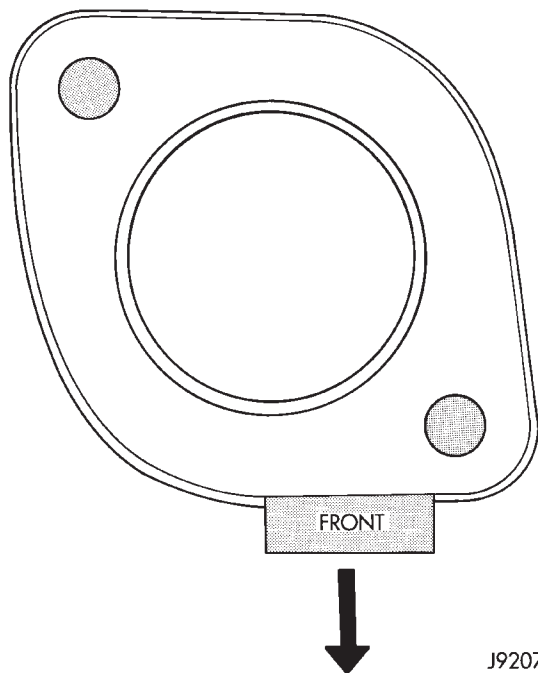

Fig. 41 Thermostat Position—5.2L/5.9L Engines
- (4) Position thermostat housing to intake manifold. Note the word FRONT stamped on housing (Fig. 41). For adequate clearance, this **must** be placed towards front of vehicle. The housing is slightly angled forward after installation to intake manifold.
- (5) Install two housing-to-intake manifold bolts. Tighten bolts to 23 N·m (200 in. lbs.) torque.